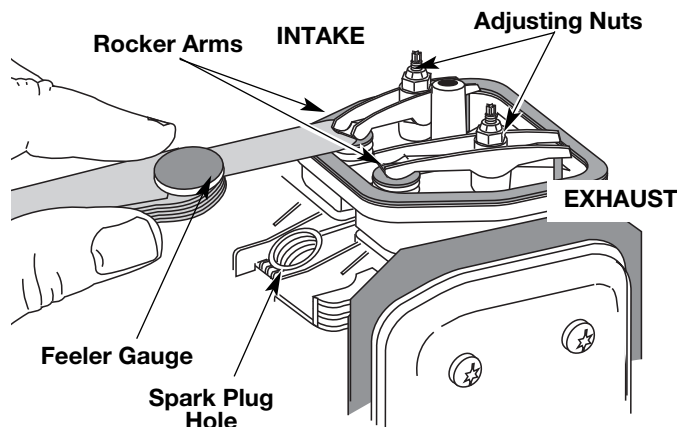

Fig. 29
- The piston is at the top of its travel while looking in the spark plug hole (Fig. 29)
7. Slide the feeler gauge between the rocker arm and the valve return spring. Measure the clearance between the valve stem and rocker arm (Fig. 29). Measure both the intake and exhaust valves.
The recommended clearance for both intake and exhaust is .003 – .006 in. (.076 – 0.152 mm). Use a standard automotive .005 in. (0.127 mm) feeler gauge. The feeler gauge should slide between the rocker arm and valve stem with a slight amount of resistance, without binding. See Figures 29 and 30.
- a. Turn the adjusting nut using a 5/16 inch (8 mm) wrench or nut driver (Fig. 29).